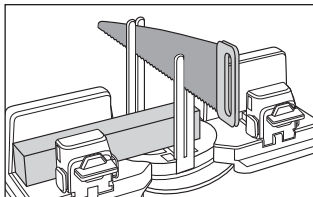

Fig. 7
- ◆ Hold the product firmly with one hand on one of the movable arms ❶.
- ◆ Using the other hand, guide the saw through the guide rods ❷ from above (see fig. 7).